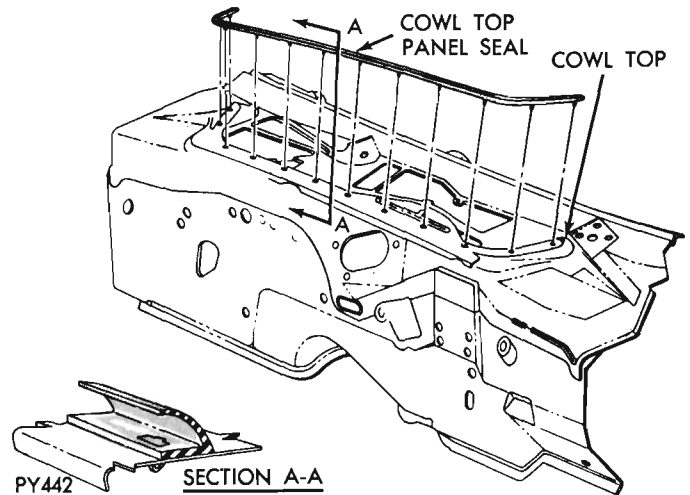

Fig. 5 - Cowl Seal
**Cowl Seal to Cowl Panel (Fig. 5)**